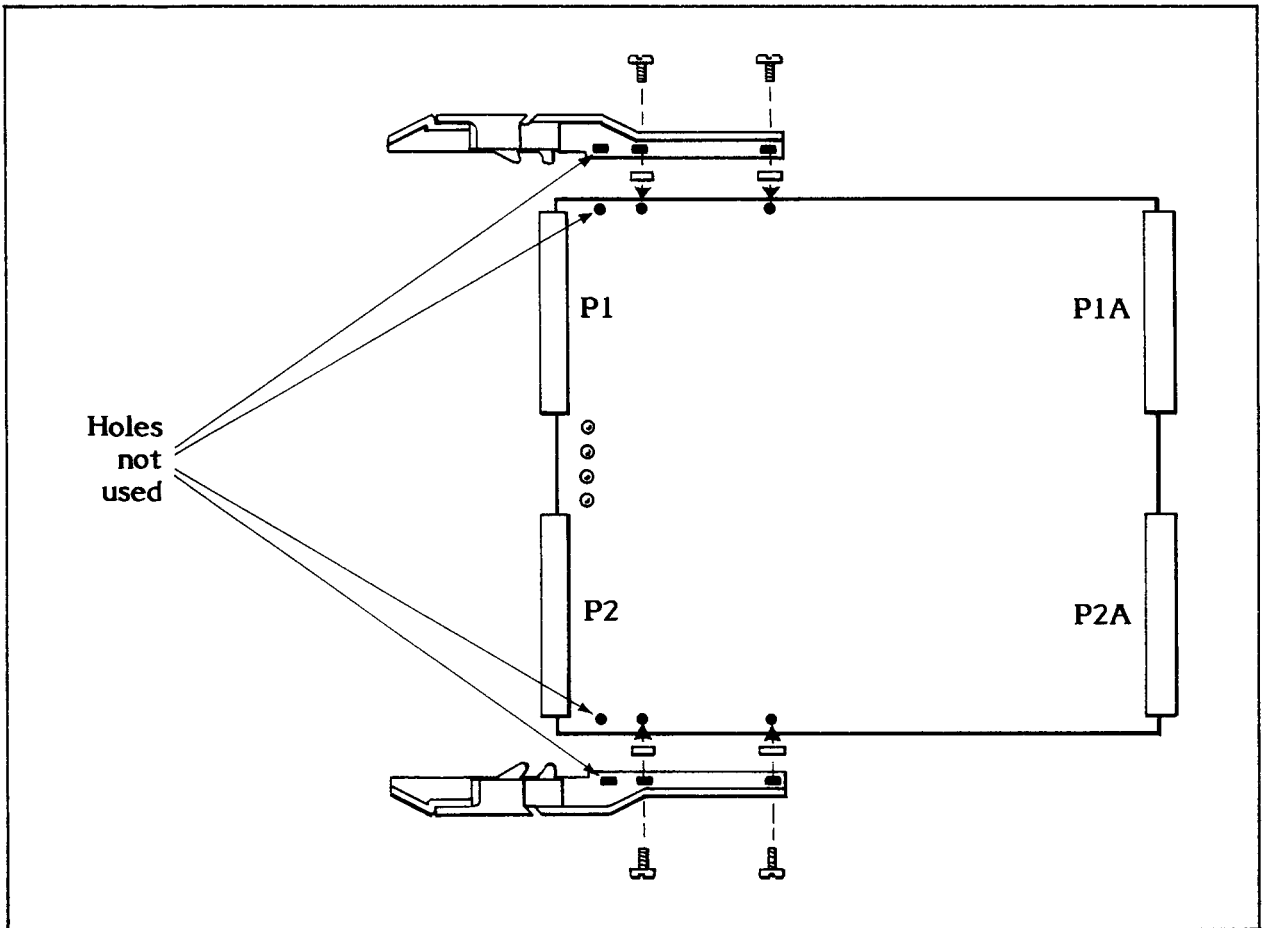

Figure 2-1. Attaching the Handles
1. Attach the two handles provided in the XVME-090 package (see Figure 2-1). The function of these handles is to hold the module being tested securely mated to the Extender Board. The XVME-090 is shipped with the 4 screws and 4 nuts required to attach the two handles.
There are three holes along the top and bottom edges of the XVME-090 (see Figure 2-1). The inside two holes are used to attach the handles. The outermost hole (which does not align with the hole in the handle) is not used.